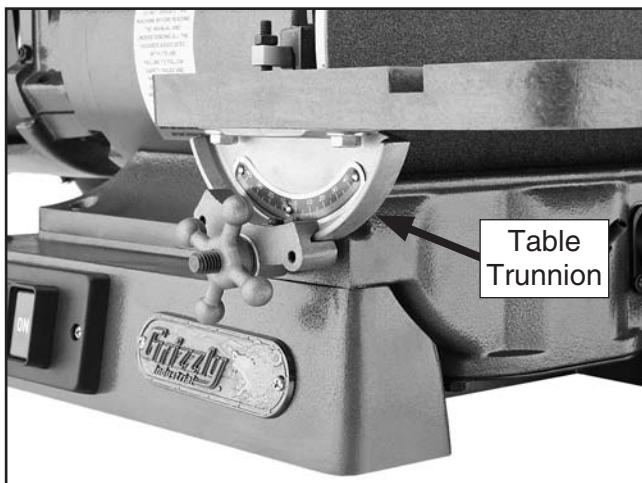

Figure 19. Sanding disc table trunnion secured by the lock knob.
- Place the sanding disc table trunnions between the bracket and lower disc guard, then tighten the lock knobs to hold the table in place (see **Figure 19**).